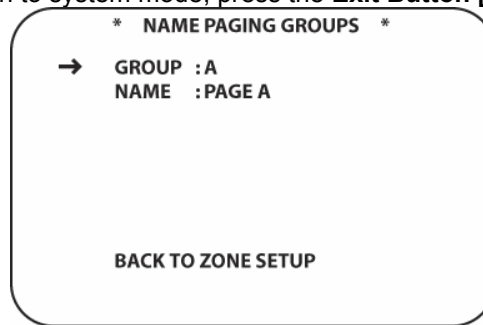

Figure 103 Name Paging Groups Screen
1. From **ZONE SETUP PAGE 1**, with the cursor next to **NAME PAGING GROUPS**, press the **Set Button [oval 18]**. The **NAME PAGING GROUPS** screen will appear. (**Figure 103**)